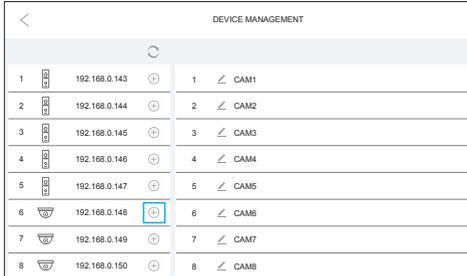

Figure 14
Step 2: Select the camera to be added to new devices from the list of available devices by clicking the plus sign to its right, as shown in Figure 14.